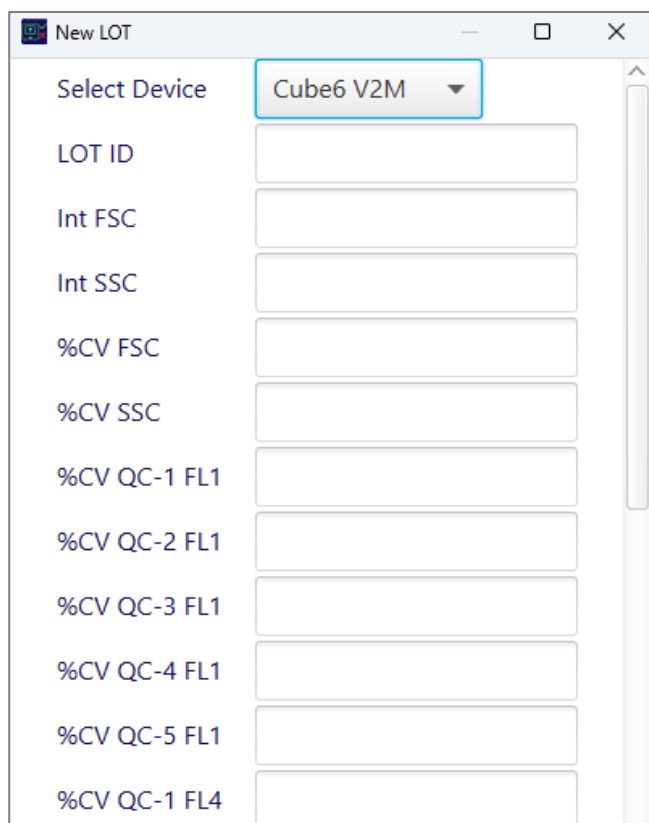

Figure 10. View of the *New LOT* window
1. To do this, click on the button **New LOT**. In the window that opens, enter the *LOT ID* and the listed parameters (see Figure 10). The parameters are supplied with the *SAFIA Check particles*. They serve as benchmarks for each *performance check*.